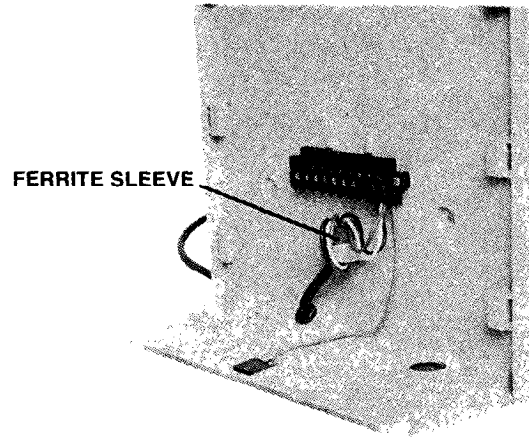

Figure 4
- Whether plugged into an outlet or hard wired, the recorder's power wires must go through the ferrite sleeve *twice* (Figure 4).